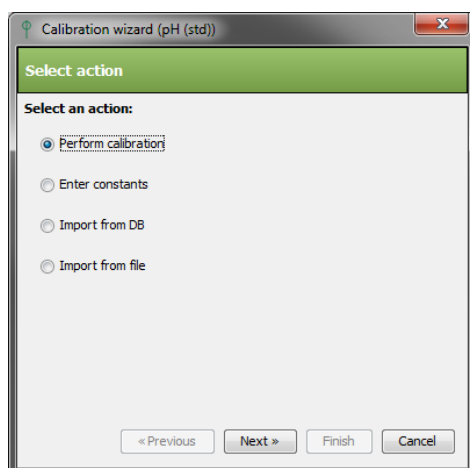

Fig. 19 Calibration action selection step
- The “Calibrate..” button will open the calibration wizard as shown on Fig. 19. The first step in the wizard selects desired calibration action.